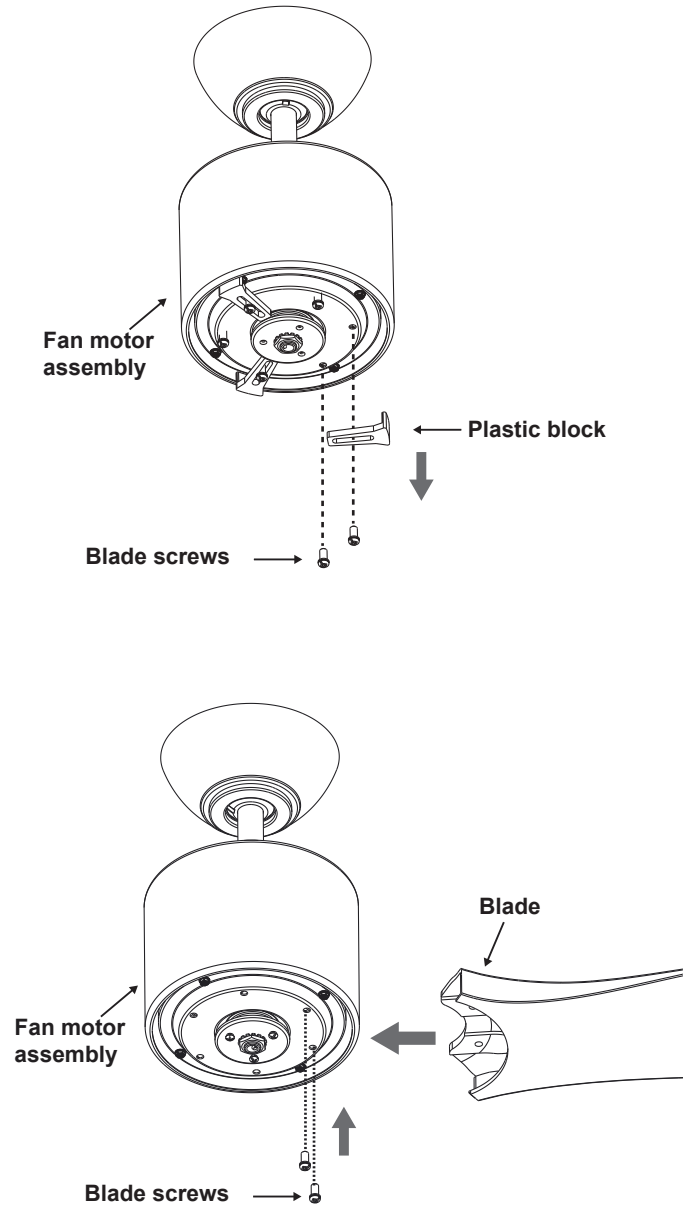

Figure 12
Step 1. Remove the six blade screws and three plastic blocks from the fan motor assembly (Fig. 12)
Step 2. Attach the blade to the fan motor assembly using two blade screws. Attach the other blades to the fan motor assembly. (Fig. 12)